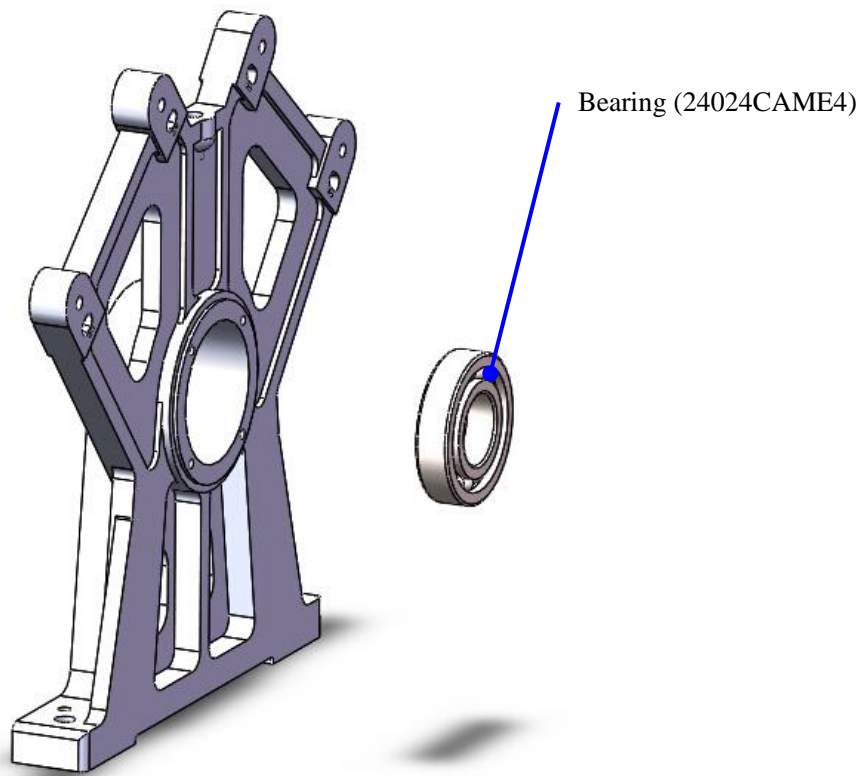

Figure 66: Install bearing in the pedestal
9. Fully pack the bearing (OEM or Equivalent. See Specifications on page 4.). Then install it in the pedestal. See Figure 66.